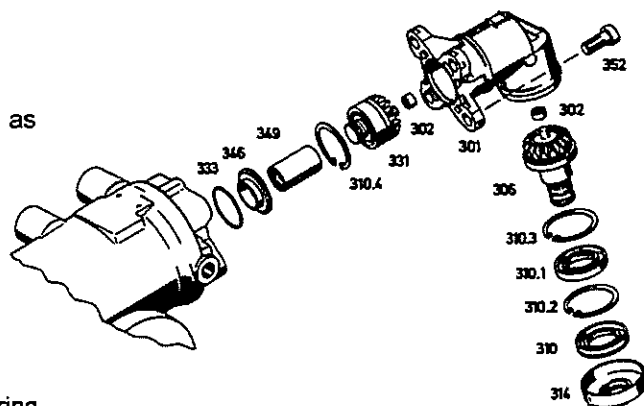

Fig.49
Press needle sleeves (302) in as far as possible with tool [36]. Install bevel gear (306) (*Fig.49*).
Fit dust seal (314) on bevel gear (306) (*see Fig.49*).